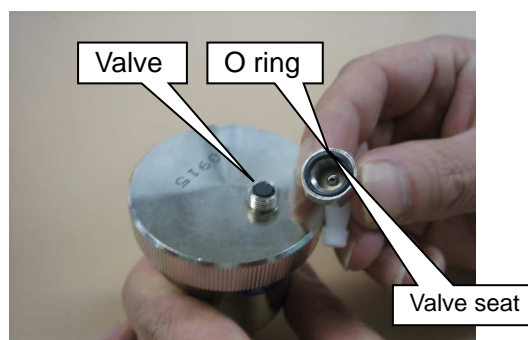

Fig. 4
4. By removing valve seat, seal surface of valve and valve seat can be cleaned. Clean off scale and dust adhering to valve and valve seat with waste cloth. (see Fig. 4)